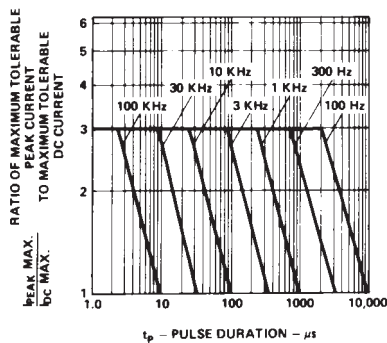

Figure 5. Maximum tolerable peak current vs. pulse duration. ( $I_{DC}$  MAX as per MAX ratings)
1. See Figure 5 (Red/Orange), 10 (Yellow), or 15 (Green) to establish pulsed operating conditions.